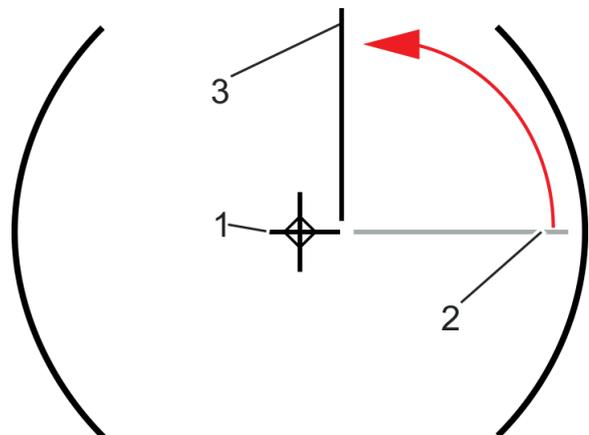

Fig. 109 Folding the wing
13. Counter the turnstile (Fig. 109/1) with one person.
14. Push the wing (Fig. 109/2) in short bursts.
17. Counter the turnstile (Fig. 109/1) with one person.
18. Fold the wing in the starting position (Fig. 109/2).